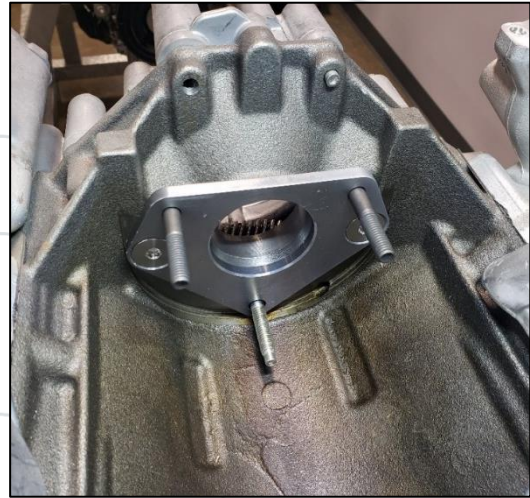

Figure 24: Engine Adapter Plate Installation on Engine Block
3. Install the DCR Pump Adapter Plate to the Engine Block (Figure 24).
4. **Install the short, threaded side of the mounting studs into the engine adapter plate (Figure 24).**